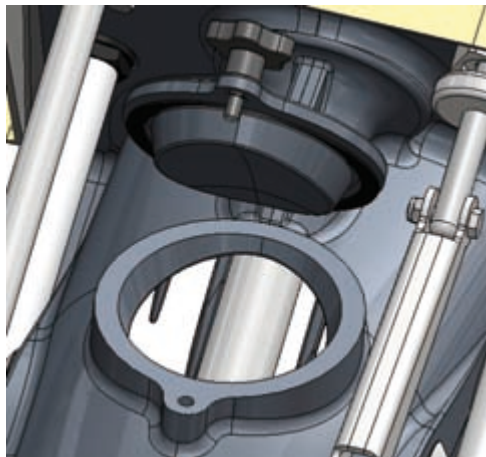

Figure 37. Opened inspection hatch
1. Open the inspection hatch (Figure 37).